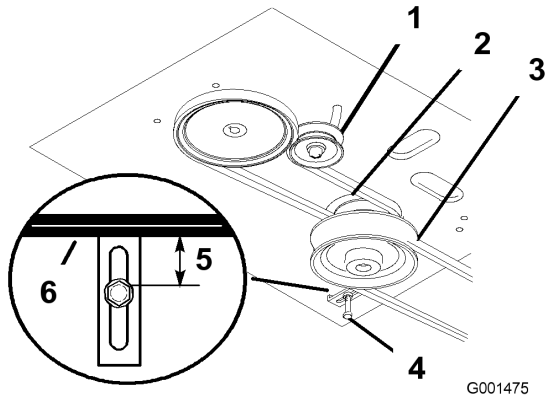

Figure 33
- Remove the mower belt; refer to Replacing the Mower Belt (Figure 33).
- Loosen the pivot bolt enough to slide the idler pulley in the slot and remove the traction belt from the engine and the drive pulleys (Figure 33).
- Install the new drive belt around the engine and the drive pulleys (Figure 33).
- Slide the idler pulley in the engine frame to tension the traction belt (Figure 33).
- Install the mower belt (Figure 33).
- Check the belt guide under the engine frame for the proper adjustment (Figure 33).